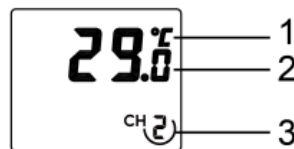

Figure 4
6. Verify the correct channel number (CH) and temperature units of measure (°F vs. °C) are on the display, as shown in Figure 4.